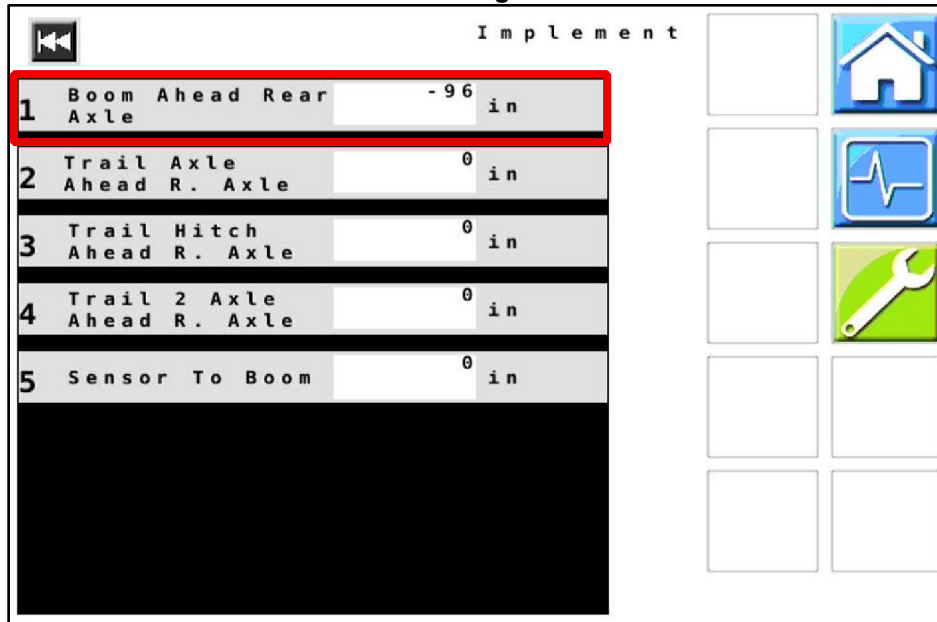

Figure 21 — Implement
37. **Figure 21:** Enter the measurement above for **Boom Ahead Rear Axle**. This measurement is the distance between the rear axle of the sprayer and application point.